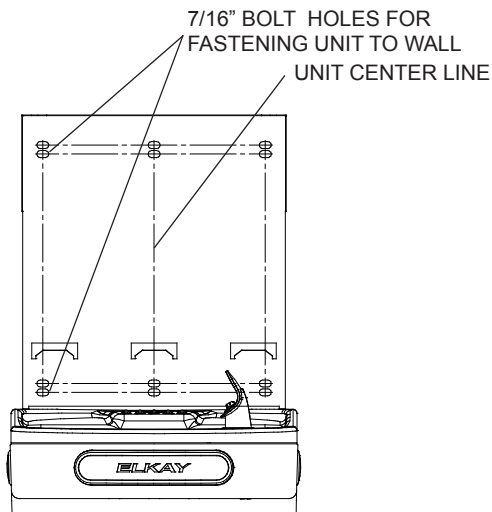

Fig. 4
- 4) Install wall mounting plate to wall using six (6) 7/16" obround mounting holes (mounting bolts not included) (See Fig. 4). Use appropriate fasteners for your wall type.